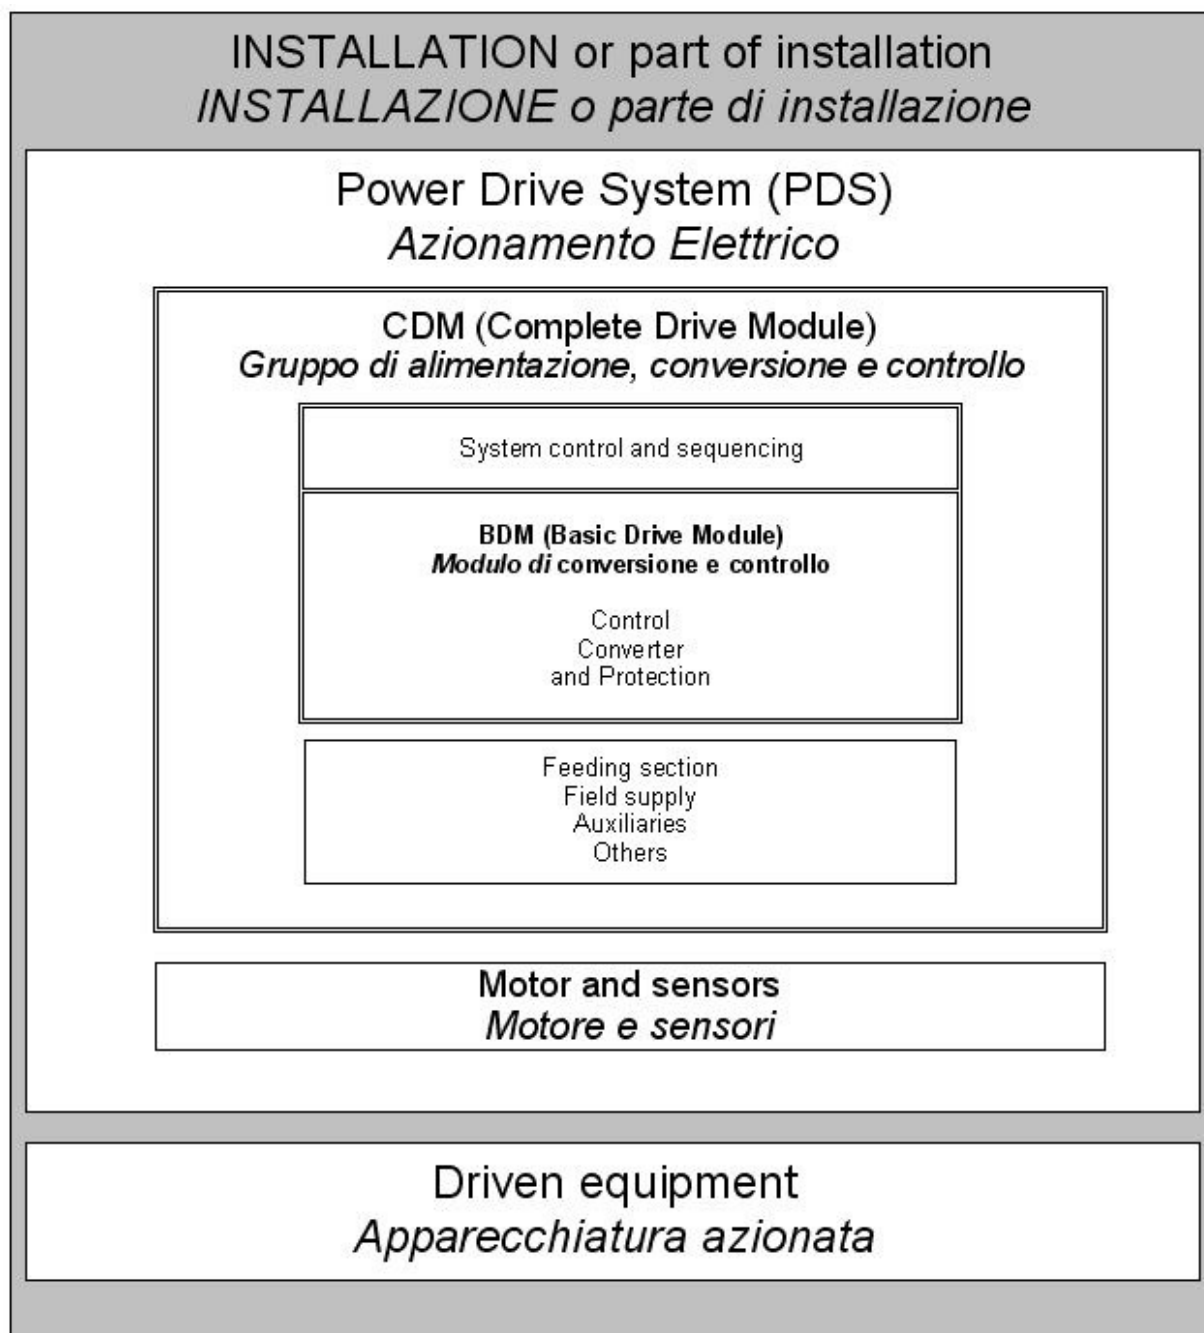

Fig.1-1
**PDS** (Power Drive System); Fig. 1-1 [4] shows the configuration of a PDS placed in an installation. A PDS is a system which converts electric energy in mechanical energy, with the use of power electronics devices, according to a command function (and according to a program).